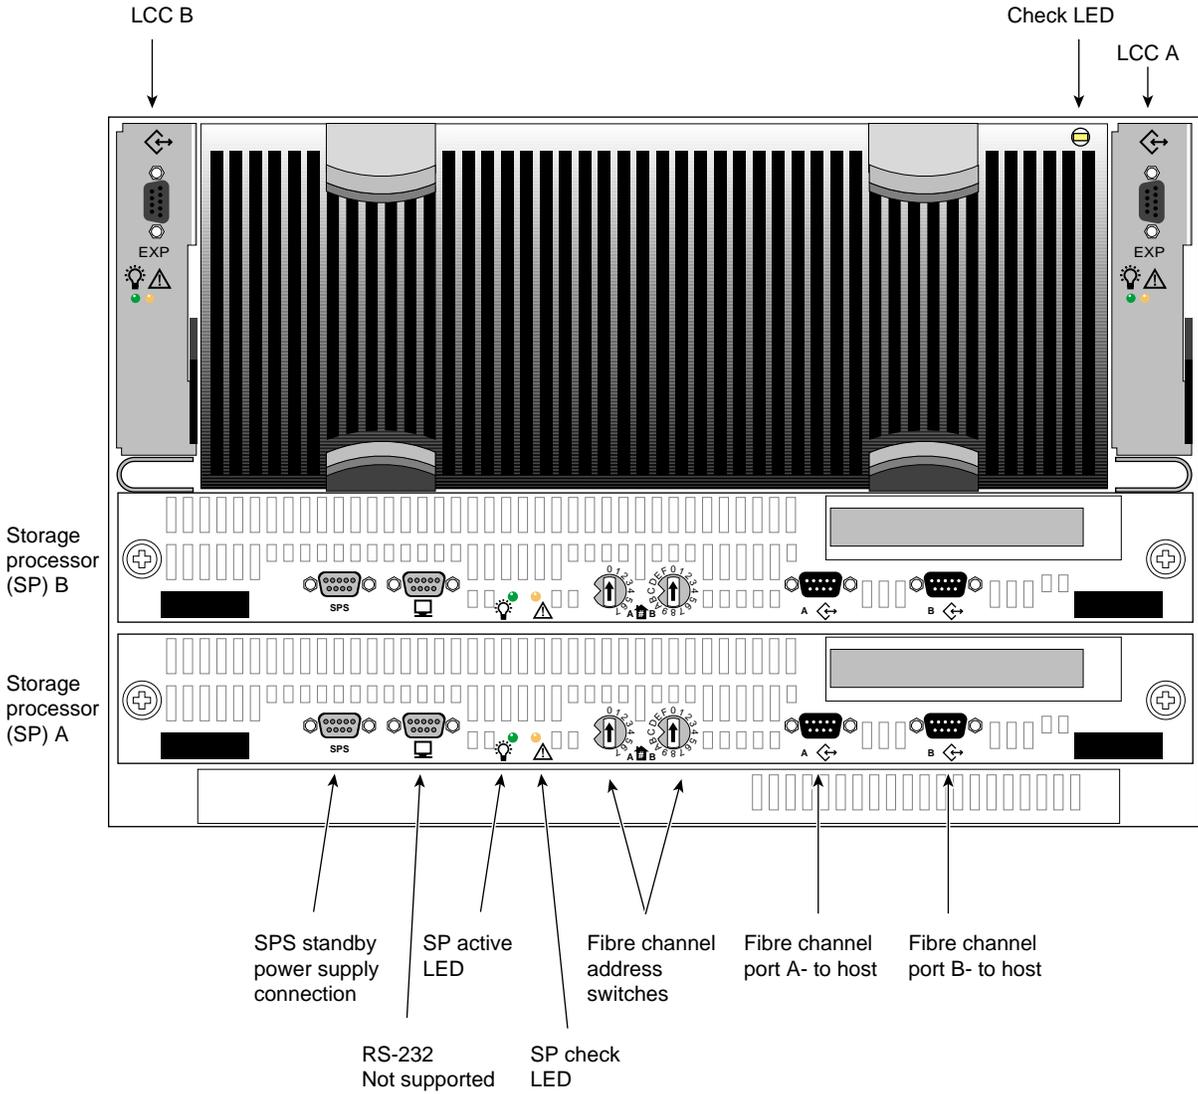
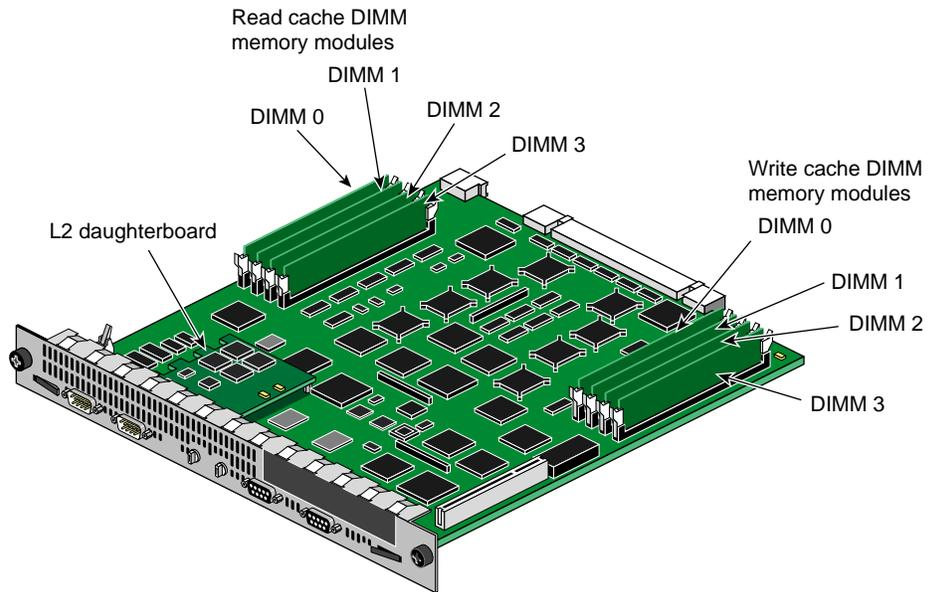

Figure 3-10 Storage Processor Connectors
Figure 3-11 Storage Processor Board Components
Each fibre channel RAID enclosure has one or (optionally) two storage processor (SP) board assemblies. Figure 3-10 shows the fibre channel RAID enclosure's standard and optional storage processors (SPs). Figure 3-11 shows an example of the storage processor board (SP) and its components.